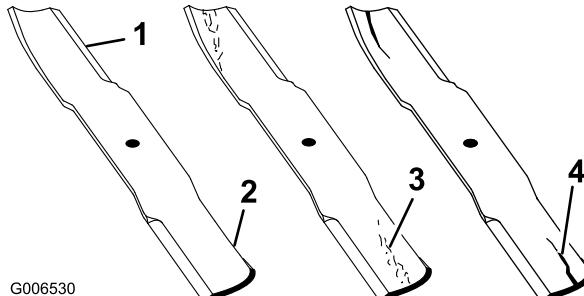

Figure 77
1. Inspect the cutting edges (Figure 77). If the edges are not sharp or have nicks, remove and sharpen the blades. Refer to Sharpening the Blades.
2. Inspect the blades, especially the curved area. If you notice any cracks, wear, or a slot forming in this area immediately install a new blades (Figure 77).